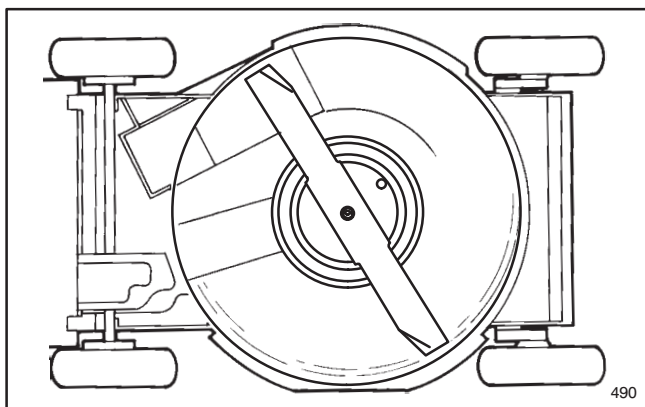

Figure 29
3. Tip mower on its left side (Fig. 29). Avoid rotating blade because starting problems may result.